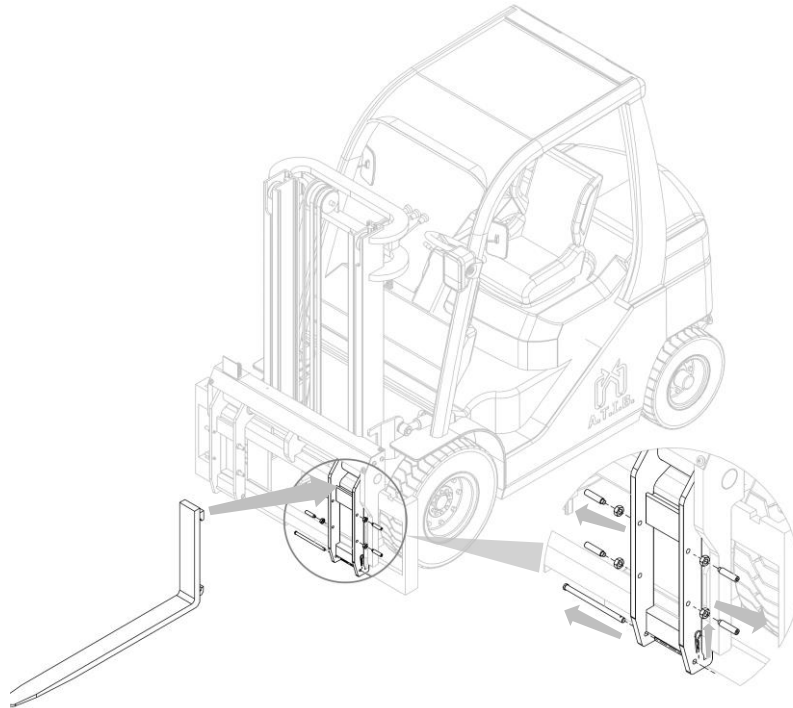

Figure 9
1. Attach the forks, after unscrewing the fork stops on the pockets and removing the lower pins (see Point Securing the Forks) that secure the forks (see Figure 9).